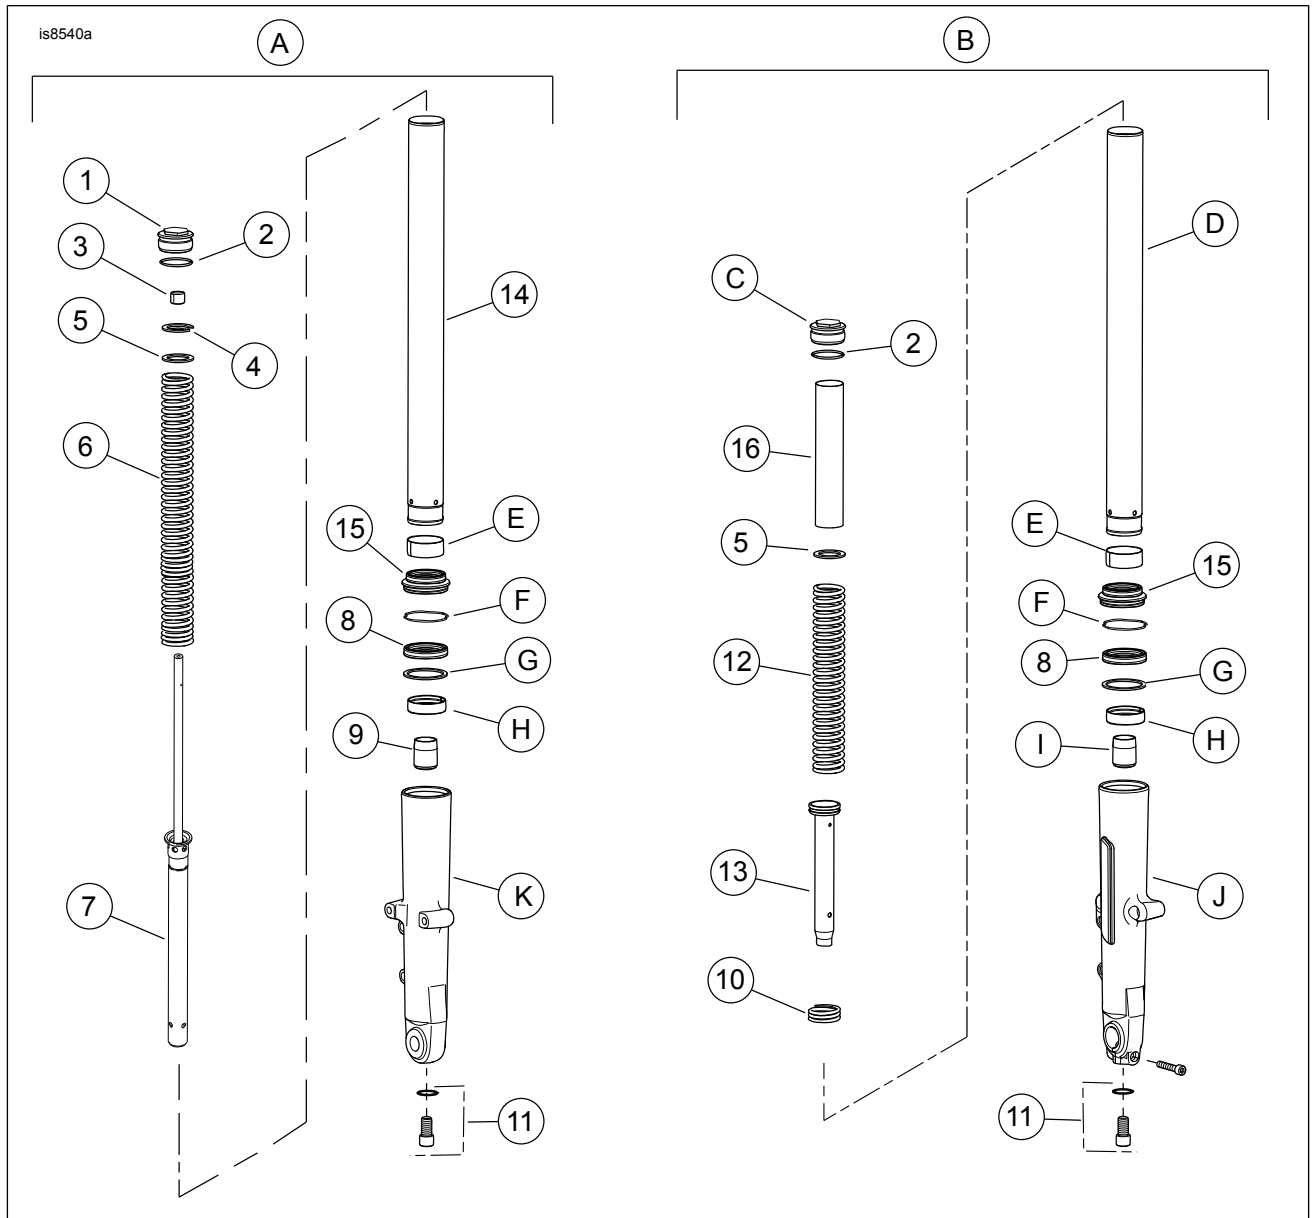

Figure 8. Service Parts: XL Mid Cartridge Front Fork Kit
Refer to Figure 8 for the following procedure.
- a. Clamp tool in vise in a vertical position with length adjustment screw (2) upward.
- b. Place hole at bottom of fork slider over post (5) at bottom end of tool.
- c. Place flat washer (Item 5, Figure 8), over the damper rod extension tool and on top of spring. Place spring seat (Item 4, Figure 8), concave side up, on top of the flat washer. With the smaller OD upward, place spring compressor collar (item 4, Figure 5) over spring seat and flat washer.
- d. Adjust tool as necessary until three retaining pins (3) engage blind holes in spring compressor collar (4). Turn length adjustment screw counterclockwise to lengthen and clockwise to shorten.
23. See Figure 8. Install **new** jamnut (3) with non-threaded end over the damper rod first. Thread onto damper rod until it bottoms out on the shoulder.